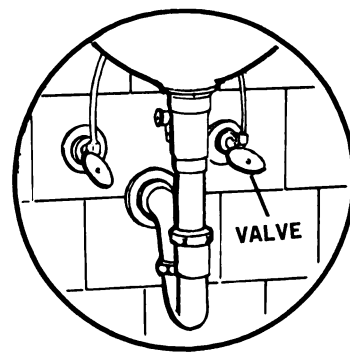

Fig. 1
1. First turn off the water at the shut-off valve nearest to the faucet you are going to repair. Then turn on the faucet until the water stops flowing. (Fig. 1)